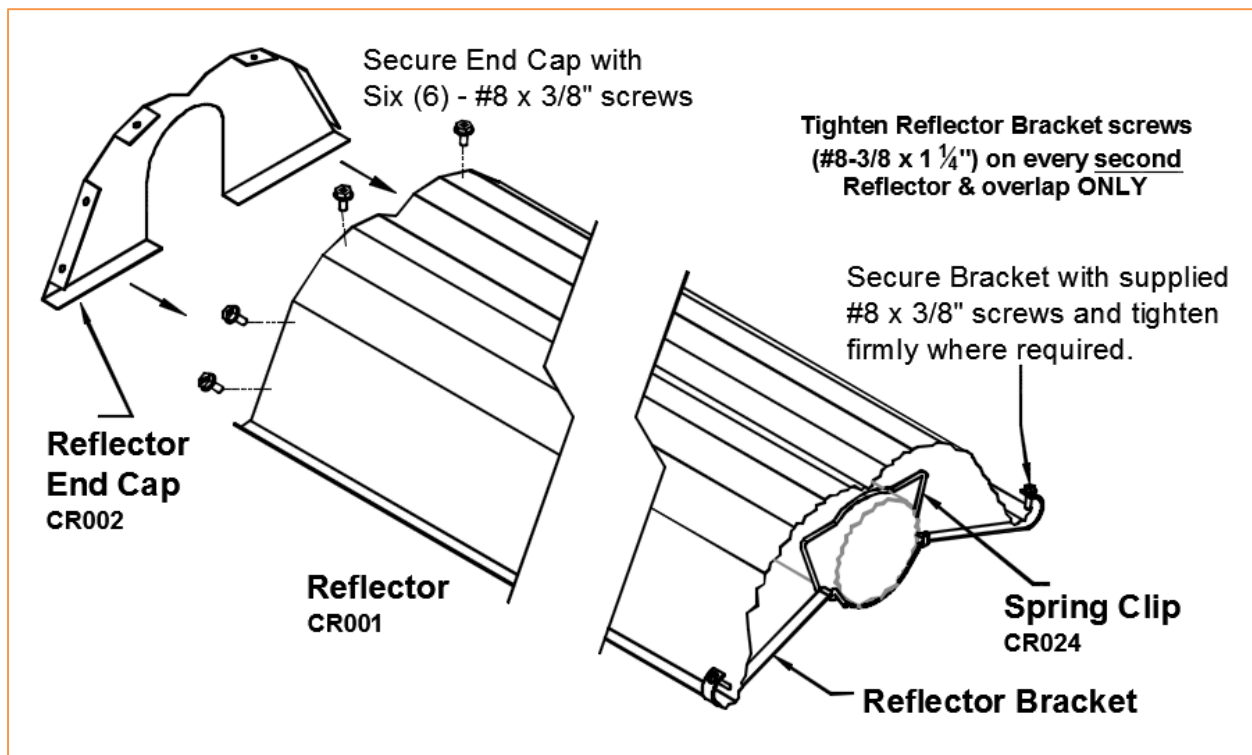
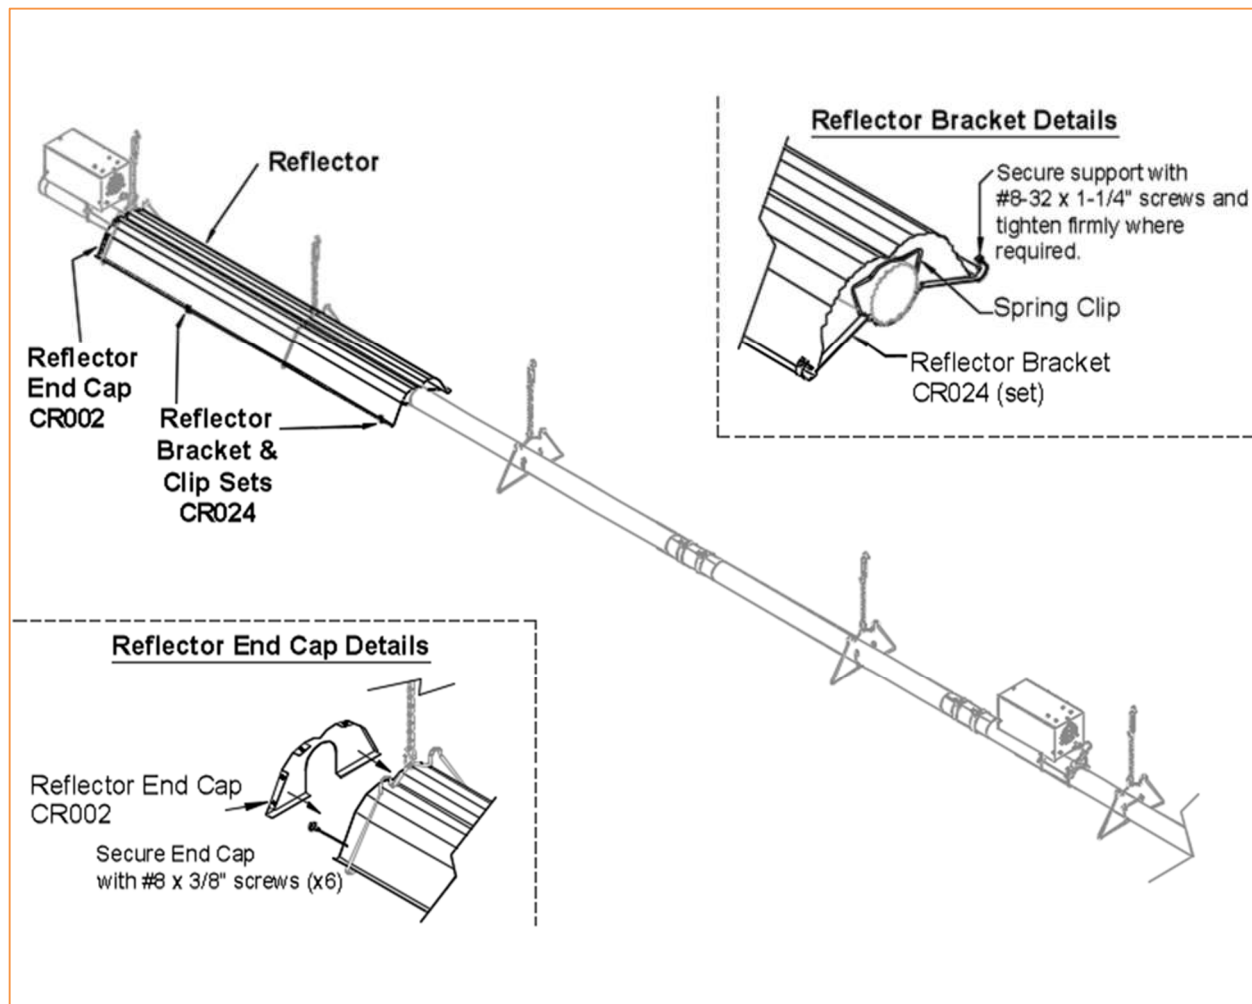

Figure 21: Reflector End Cap and Bracket Detail
Figure 22: View of System after Installation of first Reflector
3. Begin the first Reflector after a Burner with an End Cap about 3" (7.6 cm) downstream of the Burner as shown in Figure 21 and Figure 22. Install the End Cap using #8 x 3/8" screws. Leaving space in the Reflector run allows unimpeded installation and servicing of the Burner.
6. When approaching successive Burner locations, ensure the Reflector is as far under the Burner (close to the Burner mounting hole) as possible, as shown in Figure 22. *Install an End Cap using #8 x 3/8" screws on the open end of the Reflector which will be under the Burner at the end of the Reflector run.